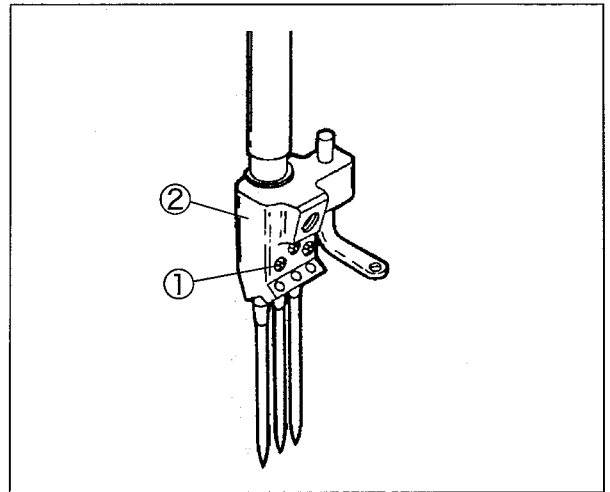
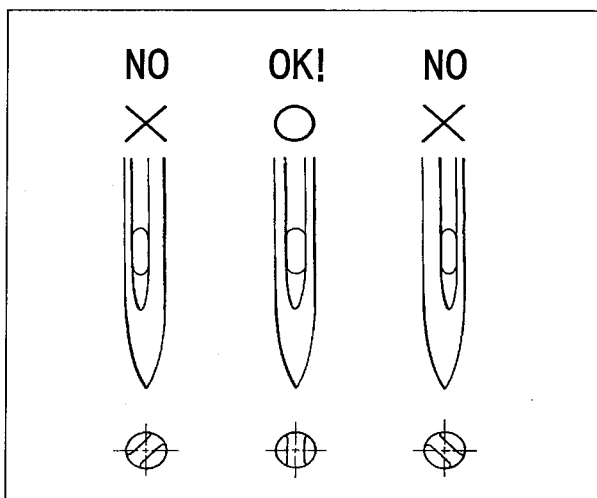

Fig. 21
Fig. 22
- (1) Loosen the screws ① with a screwdriver. (Fig. 21)
- (2) Remove an old needle with a pair of tweezers.
- (3) Insert a new needle into the needle clamp ② as far as it will go with facing its scarf to the right back. (Figs. 22 and 23)
- (4) Tighten the screws ① with a screwdriver.